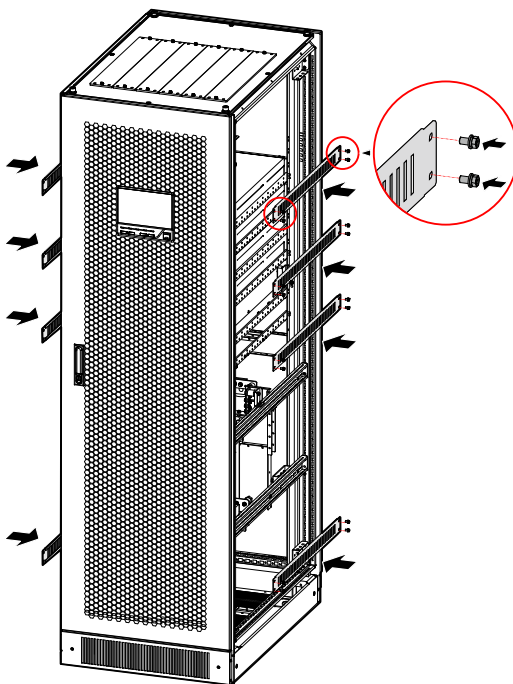

Figure3-13 Install the top wiring accessories
Step 2 Install the top wiring accessories, as shown in Figure3-13.